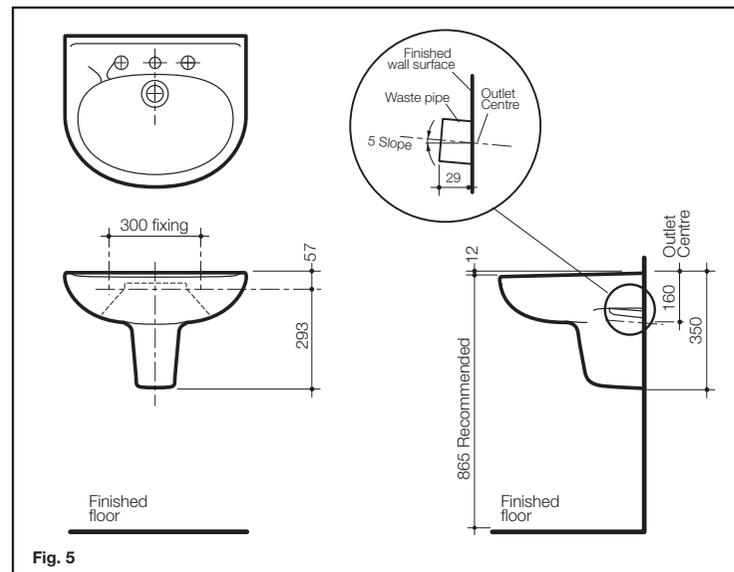

Fig. 5
- 9- The Plastic Bush allows for leveling adjustment if required by rotating the hexagonal head plastic bush, the basin will be slightly raised or lowered as detailed **Fig.5**.